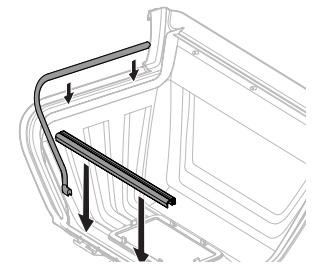

Figure 14
5. If not already installed, apply seals (720-05151A and 720-05152B) to the underside of the upper grass catcher cover as shown in Figure 14.